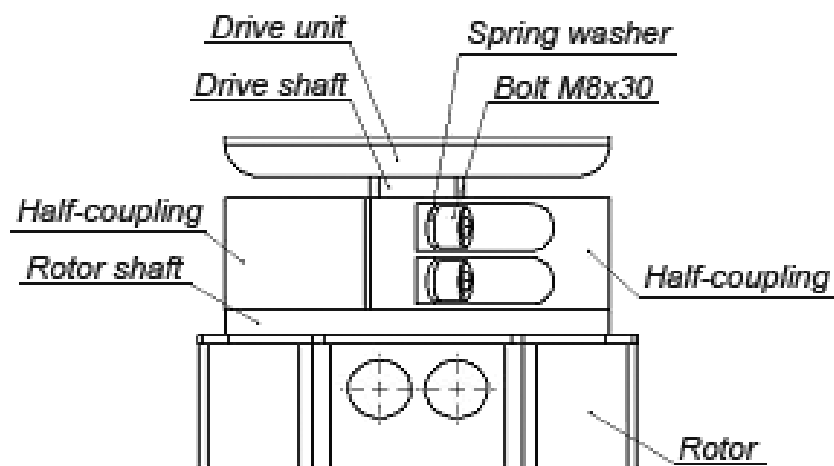

Рис. 13. Juncture of the operating mechanism shaft with the rotor (1) shaft by the union joint (16)
Join the rotor shaft with the shaft of the operating mechanism by means of two half-couplings (16) with four bolts M8x30 with spring washers 8 (Fig. 13).
8.2.23 Check the rotor verticality with the level gauge. Eliminate vertical deviations, if necessary, by adjustment of the bottom rotation unit (5), the ceiling plate (12) and the top channel (13) as tolerated by the mounting holes. Tighten the bolts and screws fixing these parts.
- holding the half-couplings, undo the bolts of the union joint (16) and remove the half-couplings (Fig. 13);
- lift gently and remove the rotor (1) from the bottom rotation unit (5); keep a moderate slop and take the rotor out of the turnstile, lay it down a steady surface;